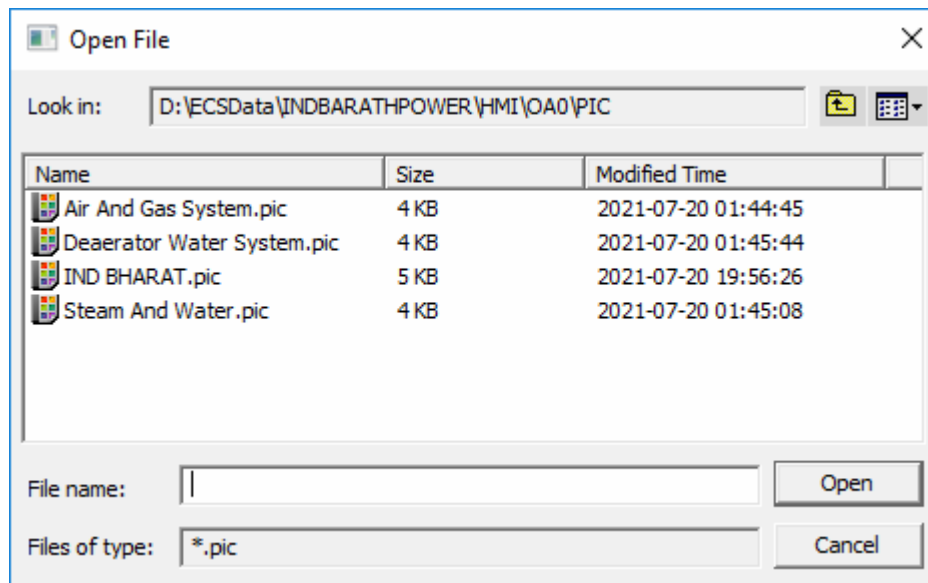

Figure 3-7 Dialog box “Open File”
2. Open: It has the same function as the icon  in the ordinary bar, which is used to open graphics files existed. To edit the files, click the command or the icon  and a file option dialog box shown in Figure 3-7 will pop up. Select a file name and click “Open” to enter the editing interface.